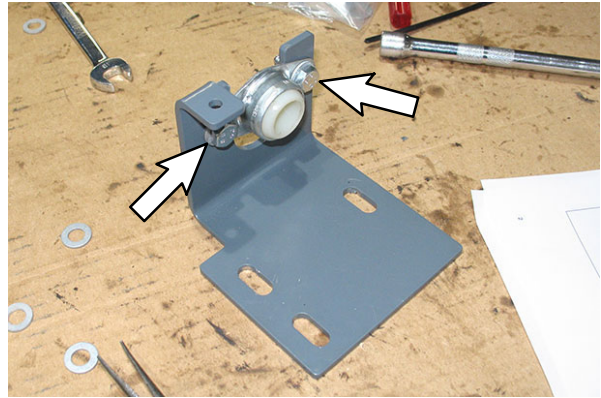
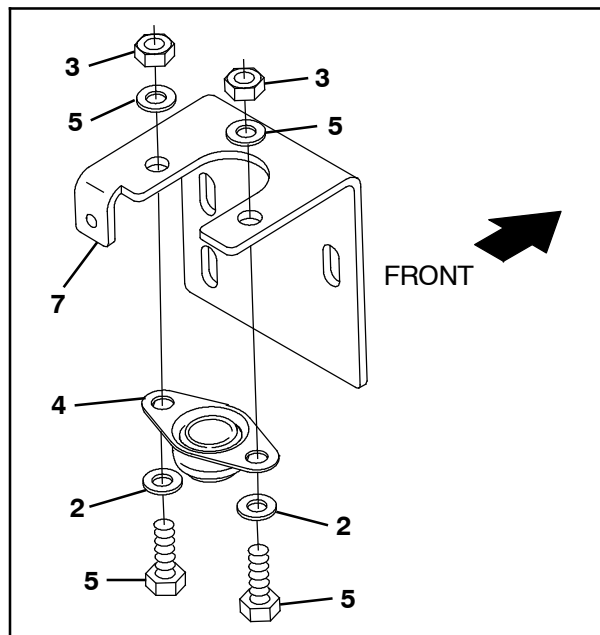

FIG. 18
FIG. 19
18. Use two M8 hex screws (2), four flat washers (5), and two M8 hex nuts (3) to install the flange bearing (4) onto the steering bearing bracket (7). (Fig. 18/ Fig. 19)